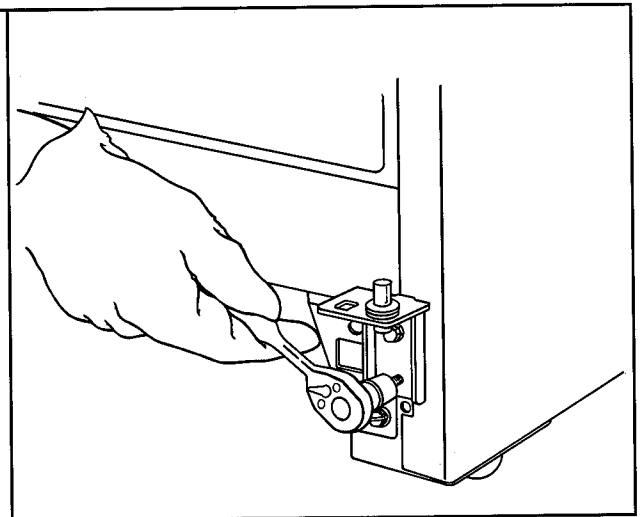

Figure 15
b. Tighten hinge with 3/8" hex head screws. See Figure 15.